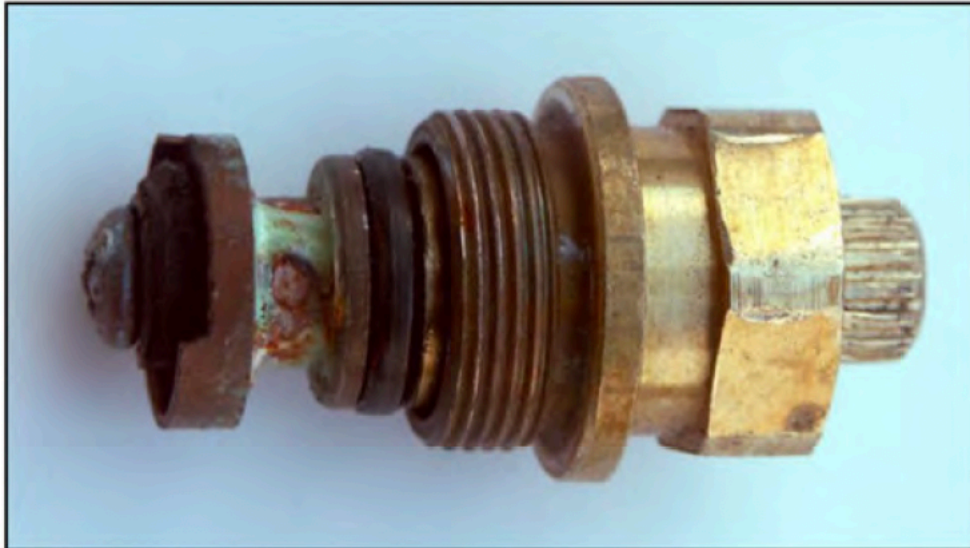

Fig. 5.11: Dezincification of a brass valve
- **(Fig. 5.11):** Dezincification of a brass valve.